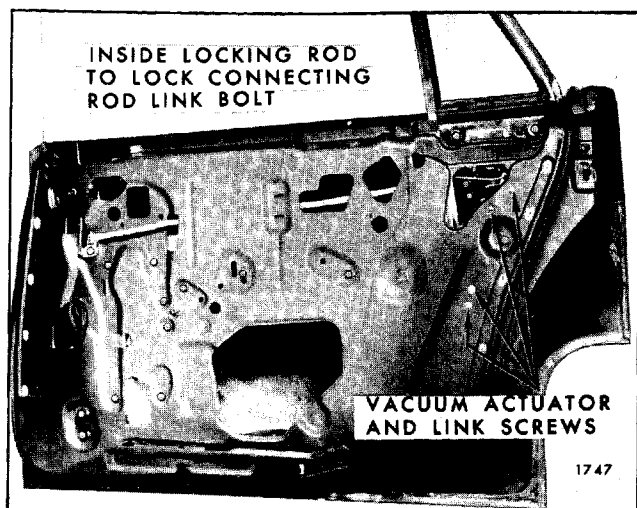

Fig. 7-123—Vacuum Lock Actuator Removal - 68069-68169 Styles
On 68069-169 Styles, remove vacuum actuator and link assembly screws (Fig. 7-123 and 7-124) and allow vacuum actuator to hang loose during lock removal
3. Remove inside locking to lock connecting rod link bolt (Fig. 7-123).
5. Remove vacuum actuator and link assembly attaching screws (Fig. 7-123 and 7-124).